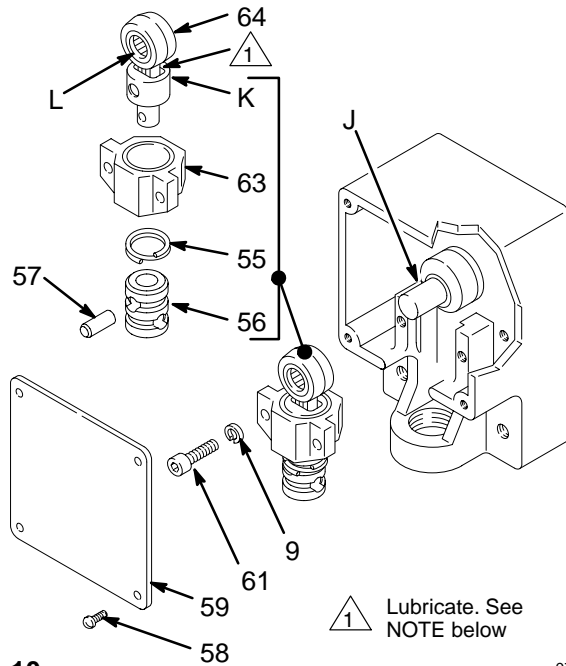

Fig. 10
1. Remove the pump as described on page 16. Remove the four screws (58) and the cover (59). Remove the two capscrews (61) and lockwashers (9). Remove the bearing (63) and the connecting rod (64), sliding the connecting rod off the crankshaft. (J). See Fig. 10.
2. Use a screwdriver to push the retaining spring (55) aside and remove the pin (57) from the coupling (56). Remove the coupling from the connecting rod (64).
3. Pull the connecting rod (64) out of the bearing (63). Wipe it clean (don't use solvent) and inspect the surfaces of the bearing and the connecting rod link (K) for wear or damage. If either needs replacing, replace both of them. When installing the rod and the bearing, coat the surfaces with SAE 10 non-detergent motor oil.
4. Clean and inspect the crankshaft. (J). Wipe it clean with a rag; do not use solvent. If the crankshaft is badly worn, replace the drive assembly.
5. Clean and inspect the connecting rod needle bearing (L). Repack bearing with industrial, heavy-duty, extreme-pressure, lithium-soap grease.